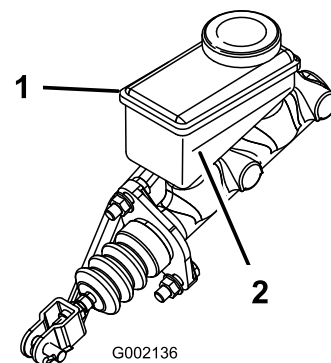

Figure 16
- Look at the outline of the fluid level at the side of the reservoir. (Figure 16).
- B. Add DOT 3 brake fluid to the reservoir until the fluid level is above the Minimum line (Figure 16).
5. Install the rubber plug in top of the dash (Figure 16).